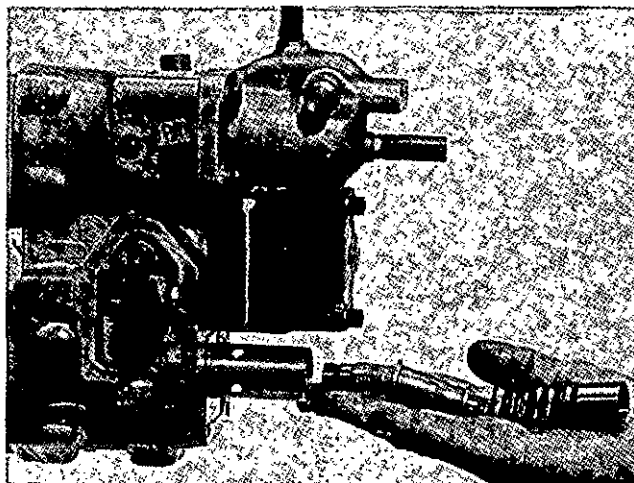

Fig. 4-4, (F5262). Remove the spring assembly of the VS pump.
1. Remove the retaining ring, shims and spacer from the governor spring housing, Fig. 4-4.